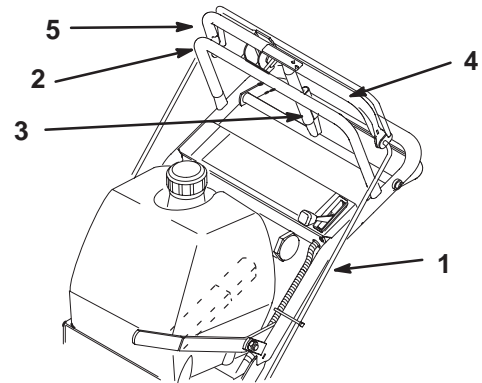

Figure 7
3. Check the gap between upper control bar and fixed bar with wheel drive fully engaged. Gap should be approximately 1 to 1-1/4 inch (25-32 mm) (Fig. 7).